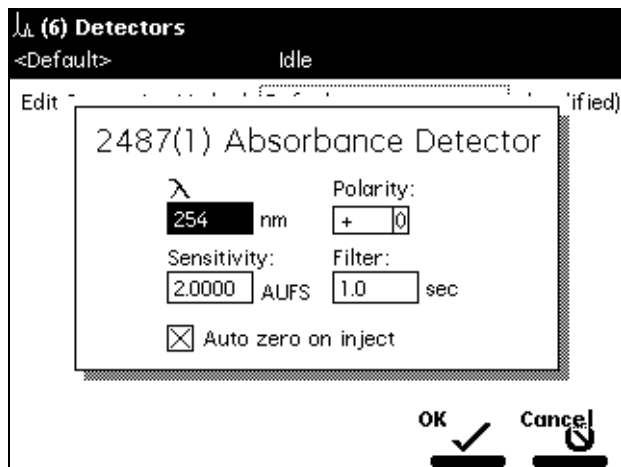
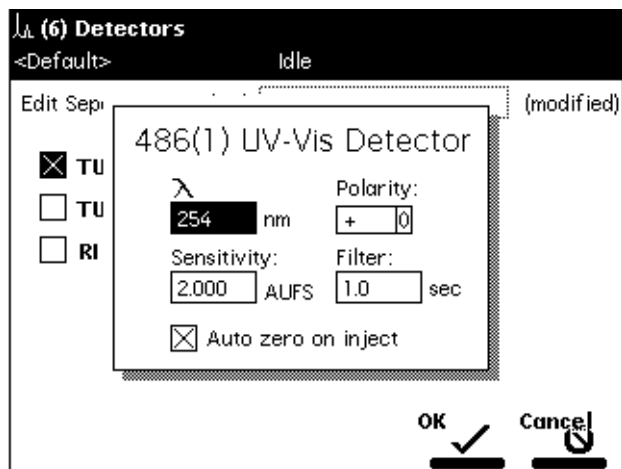

Figure 6-12 2487(1) UV/Vis Detector Screen
Figure 6-13 486(1) UV/Vis Detector Screen
1. Press the **Abs (1)** or **Abs (2)** screen key to display the appropriate absorbance detector screen. Figure 6-12 shows the screen for a Waters 2487 Detector; Figure 6-13 shows the screen for a Waters 486 Detector.